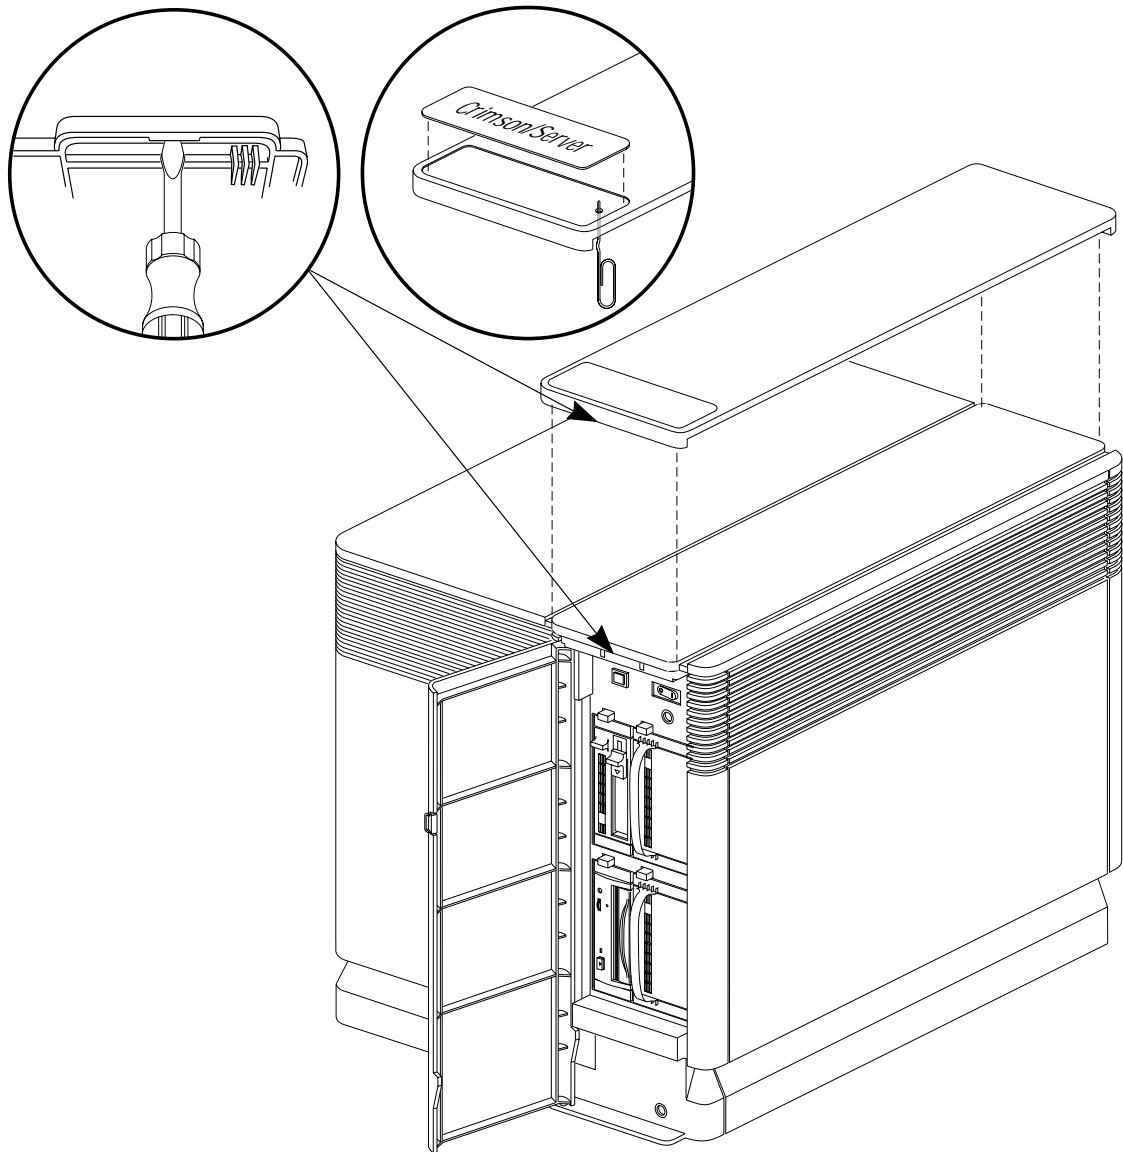

Figure 3-22 Top Hat Label Replacement
1. Peel the existing labels off the chassis. One way to remove the top hat label is to insert a paper clip into the small hole under the label. The label pops right off. This works better than trying to peel off the label (see Figure 3-22).